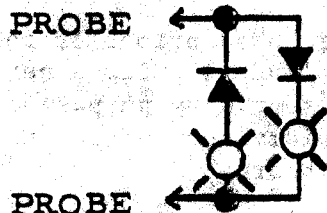

FIG 3
3. Half wave detector (can be easily made; see Figures 3, 4)